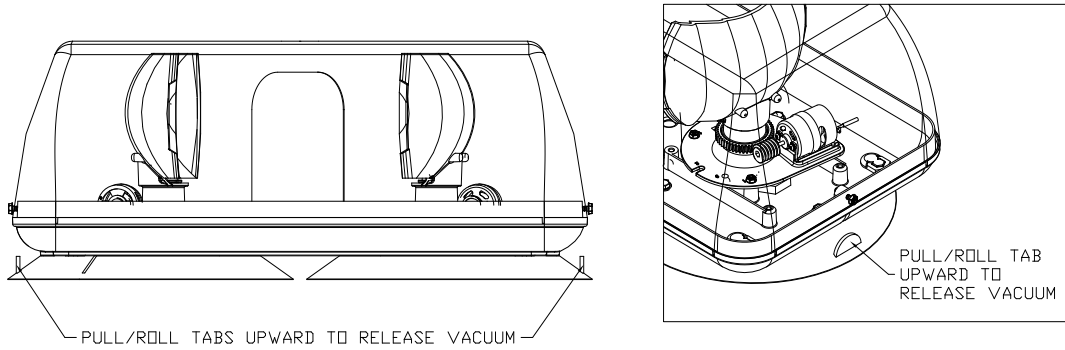

FIGURE 2
The vacuum-magnet mount feature includes two (2) suction cups on the bottom of the minibar, with a magnet inside each of the suction cups, for a secure, temporary mount. The minibar should be placed in the center or the roof where the least amount of curvature occurs. Before installing, make sure there is no debris on the bottom of the minibar or on the roof of the vehicle, which could reduce the holding power of the suction cups and magnets. Place and remove the minibar without sliding to avoid scratching the paint on the vehicle. After placement, the minibar should adhere firmly to the surface. If the unit slides or moves easily, a proper installation has not been obtained. To remove unit from vehicle, lift each tab to release the airlock (See Figure 2). To protect the rubber cushion/magnet assembly, return minibar to the box when not in use. Do not attempt to attach to ice covered surface.